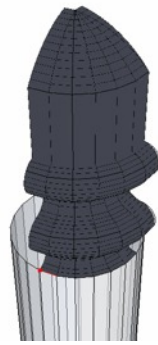

Figure 86. The upper bollard face being rotated around the perimeter of the circle
- Use the Follow Me tool to highlight the upper bollard face and rotate around the path of the circle face taking care to follow each vertices of the circle as shown in Figure 86.